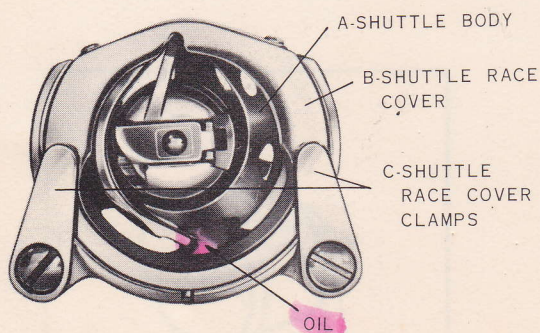

Fig. 40
The shuttle race is one of the most important oiling spots on your machine. Put a drop of oil in spot indicated by arrow in Fig. 40. This should be done before you begin sewing each time you use your machine.
1. Turn the hand wheel until the needle reaches its highest position. The shuttle will assume the position illustrated in Fig. 40.
3. Press down on the two spring loaded shuttle race cover clamps. (C) Fig. 40, and remove the shuttle race cover (B) and shuttle body (A).
2. Place shuttle body, (A) Fig. 40, on pin of shuttle driver and adjust into position.